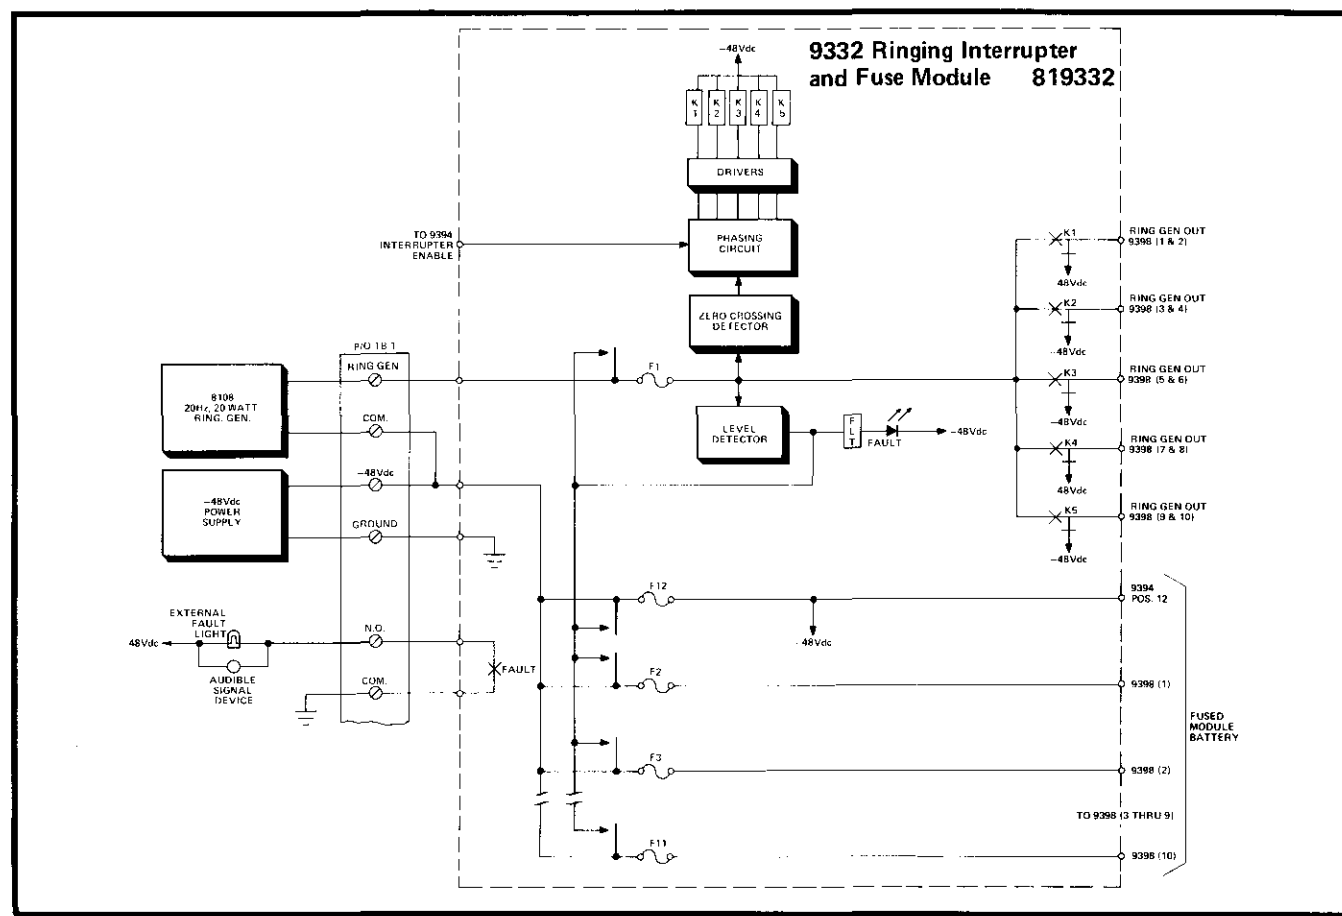

figure 4. 9332 Ringing Interrupter and Fuse Module (819332) block diagram
2.07 The 9332 Ringing Interrupter and Fuse Module (see figure 4) contains 12 distribution fuses to separately fuse each of the ten 9398 Line Circuit Modules as well as the 9394 Distribution Amplifier, the ringing generator input, and the 9332 itself. One 9332 module is required with each 294 Mounting Assembly. A front-panel *fault* LED provides a local visible indication of a blown fuse or loss of ringing voltage. A fault relay provides contact closure (or open) for a remote indication of a blown fuse, loss of ringing voltage, or loss of System input power. Fuses in the 9332 are Buss GMT-type 0.25-ampere fuses. Located on the front panel of the module, these fuses can be replaced without removing the module from service. A fault-detection circuit provides a trouble indication in